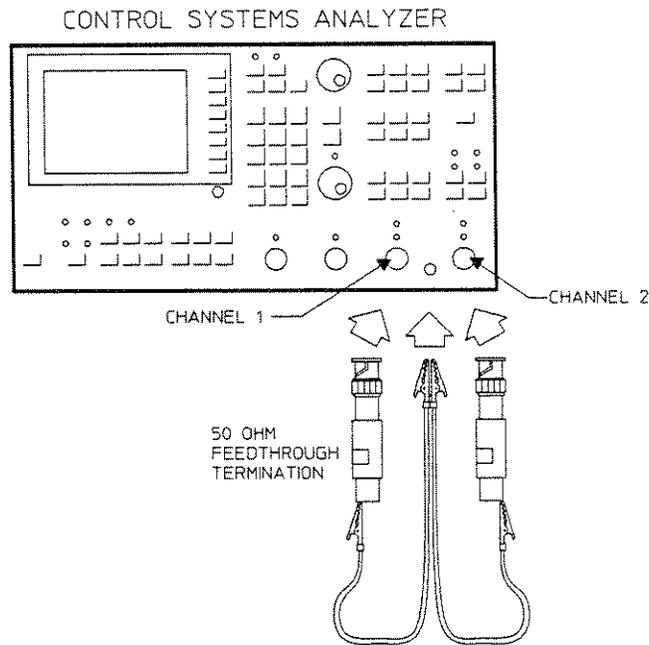

Figure 4-4. DC Offset Test Setup
1. Connect the HP 3563A as shown in Figure 4-4. Keep the leads to chassis ground as short as possible.